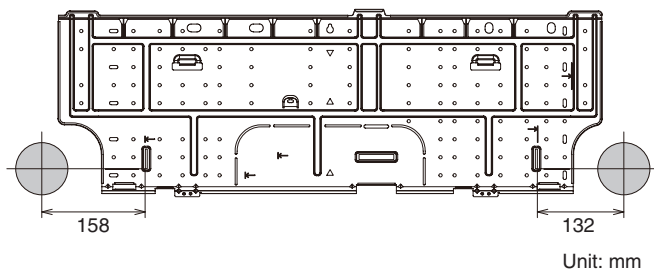

Fig. 1-59
- (1) Place the rear panel from the indoor unit on the wall at the location selected. Make sure the panel is horizontal, using a carpenter’s level or tape measure to measure down from the ceiling. Wait until after cutting the hole before attaching the rear panel to the wall.
- (2) Determine which side of the unit you should make the hole for tubing and wiring. (Fig. 1-59)
In the case of left-rear tubing, use the measurement points 158 mm from the marked position on the rear panel for precise placement of the hose outlet. (Fig. 1-59)